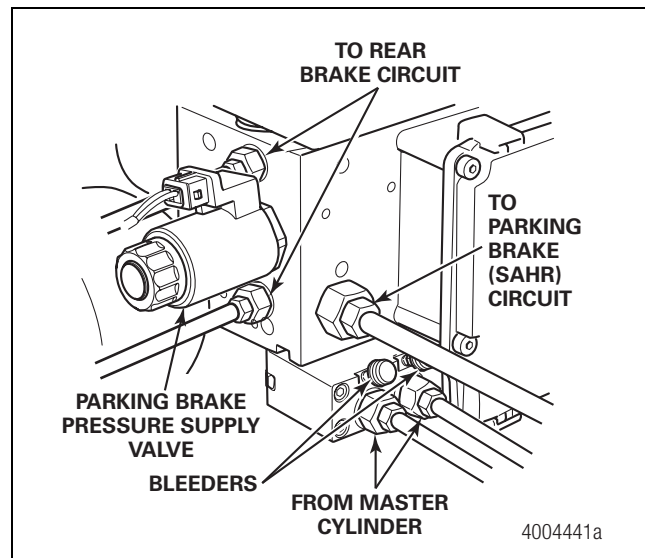
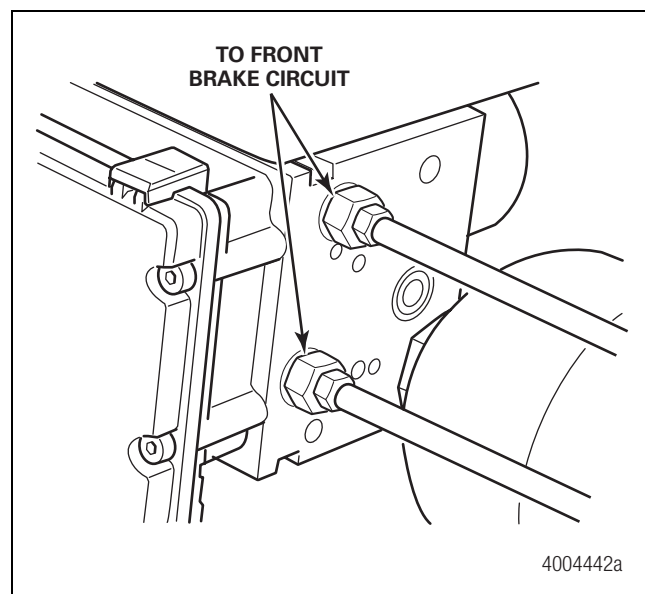

Figure 10
Figure 11
5. Thoroughly clean the area around the two relay valve fittings. These attach the two brake lines from the master cylinder to the HCU. Figure 10 and Figure 11.
1. Thoroughly clean the area around the five remaining brake line fittings before beginning the removal procedure. Figure 10 and Figure 11.
2. Connect the seven brake lines to the new HCU. Remove the protective cover before attaching the line. Check the line markers to ensure correct installation on the HCU. Figure 10 and Figure 11.